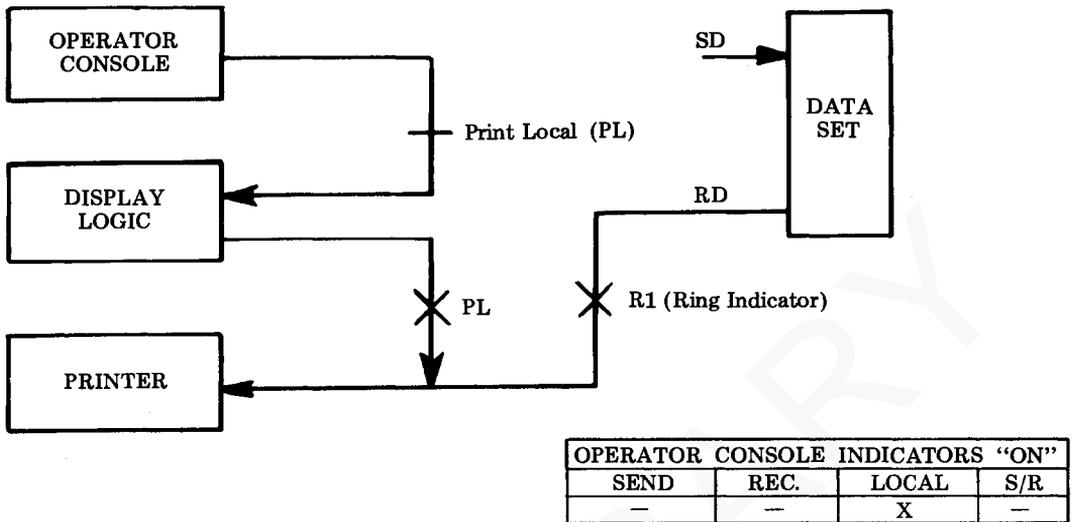

Fig. 1—Local Mode
7.21 In the local mode (Fig. 1), the controller interfaces the opcon to the display logic. This "off-line" mode allows the terminal operator to prepare or edit information to be stored in the display logic and displayed on the monitor prior to transmission to the the line or a local printer. The terminal is in the local mode when the lamp is lighted in the LOCAL switch keytop on the opcon. Printer access in the local mode is discussed in 7.32.